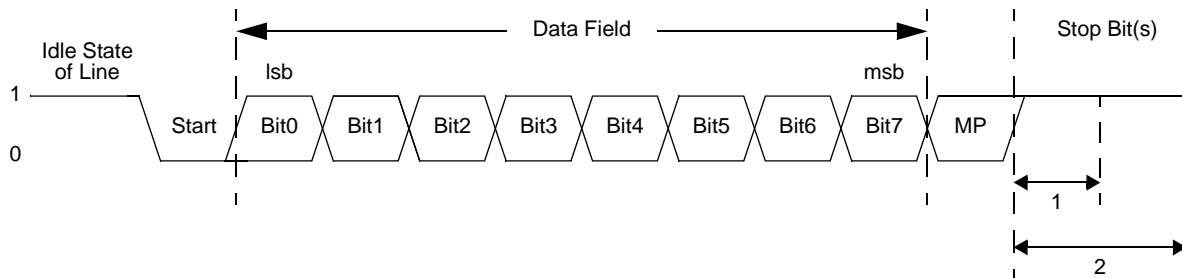

Figure 16. UART Asynchronous Multiprocessor Mode Data Format
The UART has a Multiprocessor (9-bit) mode that uses an extra (9th) bit for selective communication when a number of processors share a common UART bus. In Multiprocessor mode (also referred to as 9-Bit mode), the multiprocessor bit (MP) is transmitted immediately following the 8-bits of data and immediately preceding the Stop bit(s) as illustrated in Figure 16. The character format is: